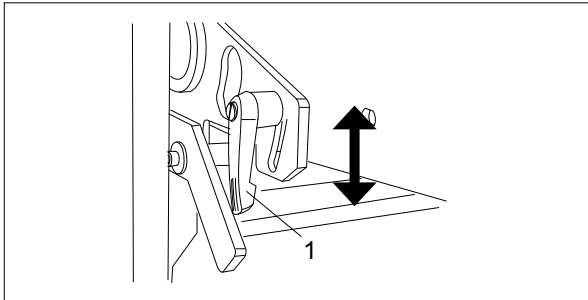

Fig. 71 Angle adjustment
1. Loosen the lock lever on both sides of the bridge (Fig. 71/1) by turning it counter-clockwise.
3. Tighten both lock levers (Fig. 71/1).